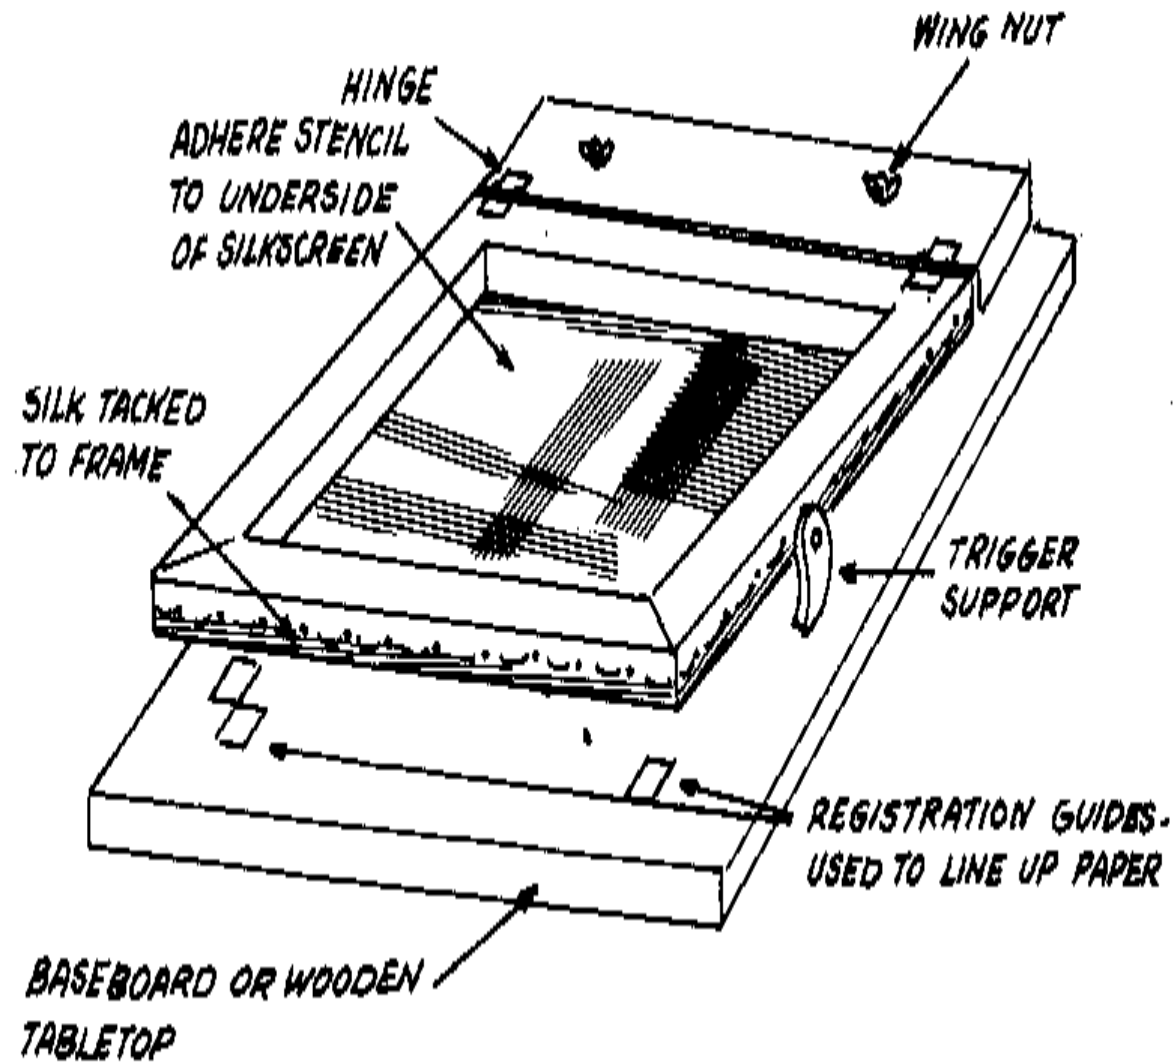

FIGURE 2. BOLT THE HINGED END OF THE FRAME TO A FLAT BASEBOARD OR WOODEN TABLE TOP.
5. The pieces to be printed can be registered (lined up so that the printed image appears in exactly the same place on each piece). Registration guides can be made of thin cardboard or several layers of tape (see Figure 2).